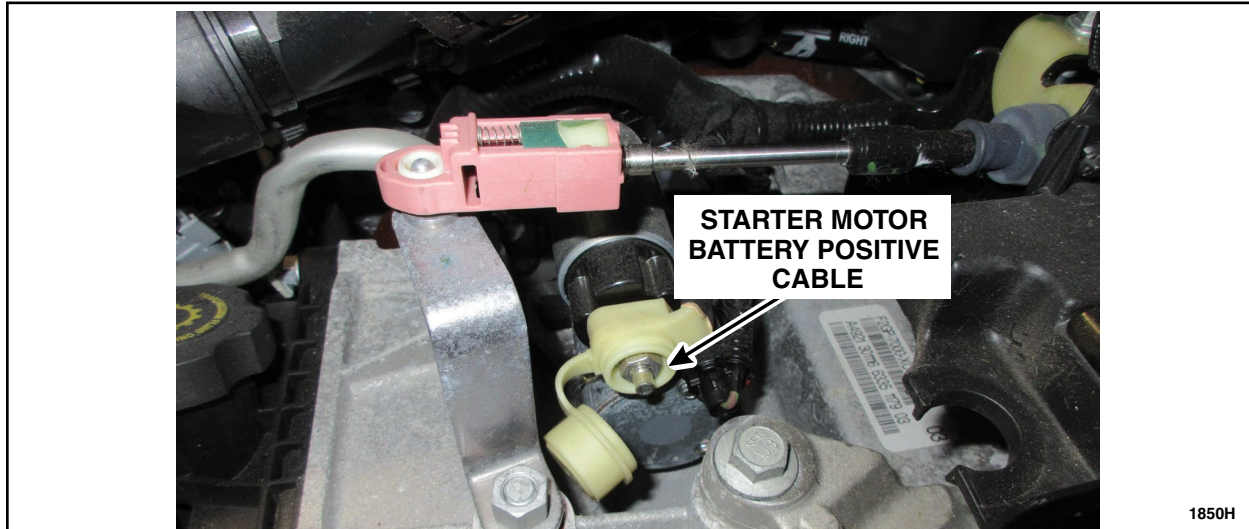

FIGURE 9
7. Inspect the starter motor battery positive cable nut and stud for cross threading or damage and torque the nut. See Figure 9.